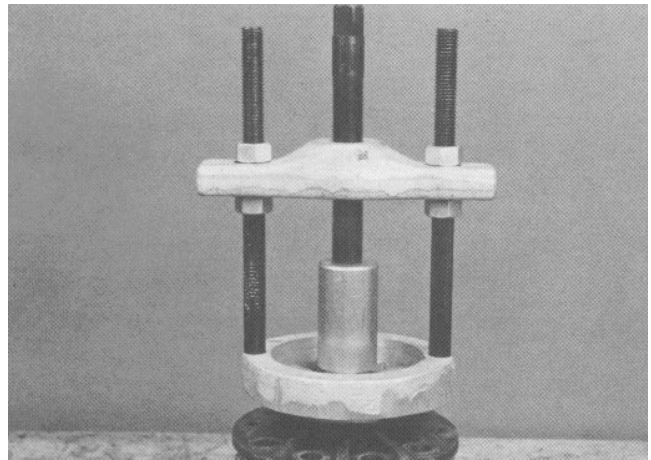

Figure 23
5. Do not remove the bearings from the differential case unless bearing failure is evident. It is recommended that whenever bearings are removed (regardless of usage) they must be replaced with new ones. Remove the case side bearing with a puller as shown (Fig. 23).